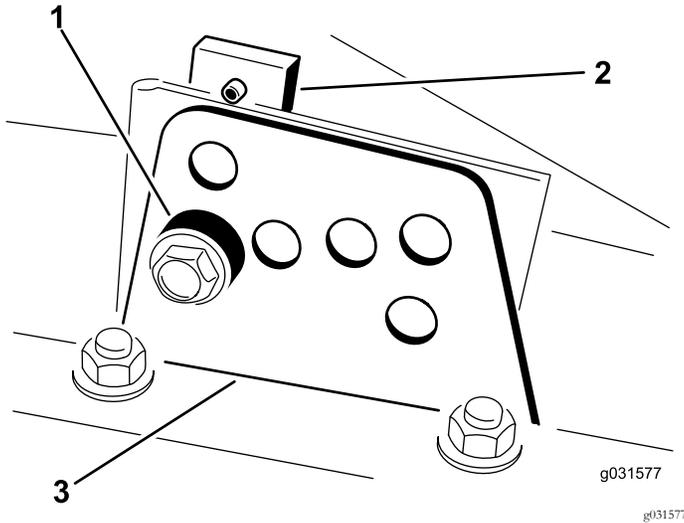

Figure 12
2. Loosen the bolt securing each height-of-cut bracket to the height-of-cut plate (front and each side) as shown in Figure 12.
4. While supporting the chamber, remove the spacer (Figure 12).